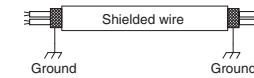

Fig. 5-2
- Use shielded wires for inter-unit control wiring (c) and ground the shield on both sides, otherwise misoperation from noise may occur. (Fig. 5-2)